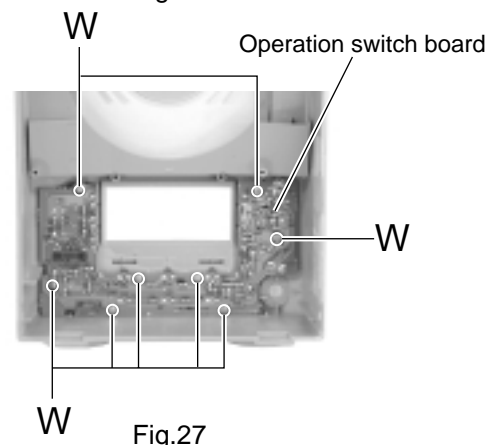

Fig.27
■ **Removing the operation switch board (See Fig.27)**